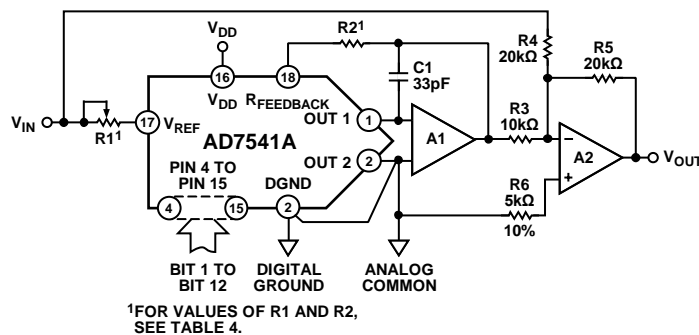
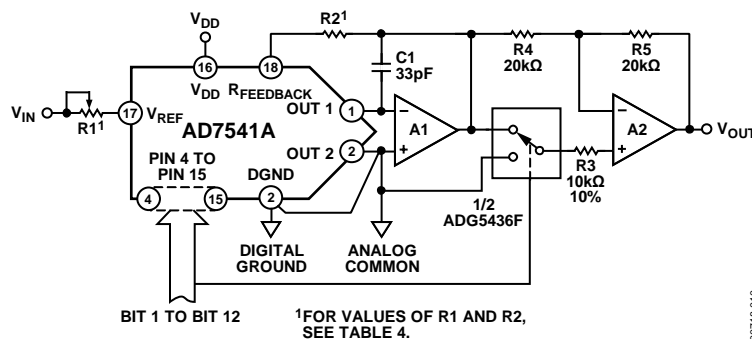

Figure 8. Bipolar Operation (Four-Quadrant Multiplication)
Figure 9. 12-Bit Plus Sign Magnitude Operation
Gain error is adjustable to zero using external trims, as shown in Figure 7, Figure 8, and Figure 9.
Figure 8 and Table 6 illustrate the circuitry and code relationship for bipolar operation. With a dc reference (positive or negative polarity), the circuit provides offset binary operation. With an ac reference, the circuit provides full four quadrant multiplication.
**Table 6. Bipolar Code Table for Offset Binary Circuit of Figure 8**
Figure 9 and Table 7 show an alternative method of achieving bipolar output. The circuit operates with sign plus magnitude code and has the advantage of giving 12-bit resolution in each quadrant, compared with 11-bit resolution per quadrant for the circuit of Figure 8. The ADG5436F is a dual SPDT, latch-up immune switch. R4 and R5 must match each other to 0.01% to maintain the accuracy of the DAC. Mismatch between R4 and R5 introduces a gain error.
**Table 7. 12-Bit Plus Sign Magnitude Code Table for Circuit of Figure 9**